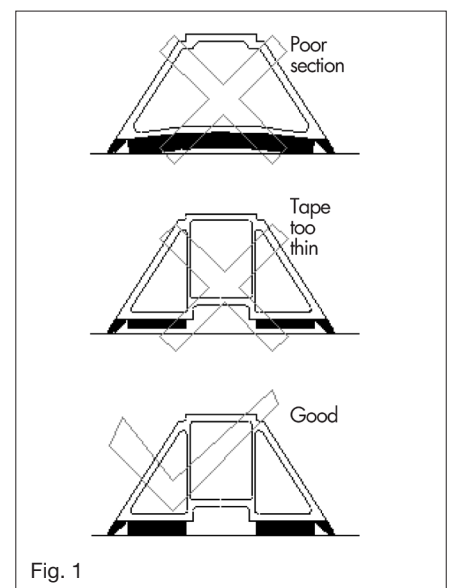

Fig. 1
- Presence of co-extruded gaskets has to be considered and tape thickness should allow for full contact with minimal compression of the gasket (Fig. 1).